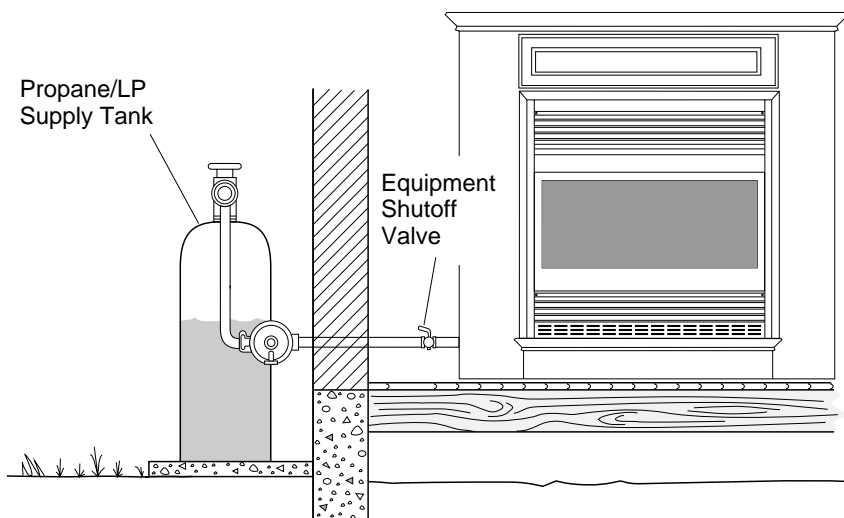

Figure 27 - Checking Gas Joints Shown with Optional Mantel
3. Check all joints from propane/LP supply tank to equipment shutoff valve (see Figure 27). Apply mixture of liquid soap and water to gas joints. Bubbles forming show a leak.
4. Check all joints from equipment shutoff valve to thermostat gas valve (see Figure 27). Apply mixture of liquid soap and water to gas joints. Bubbles forming show a leak.